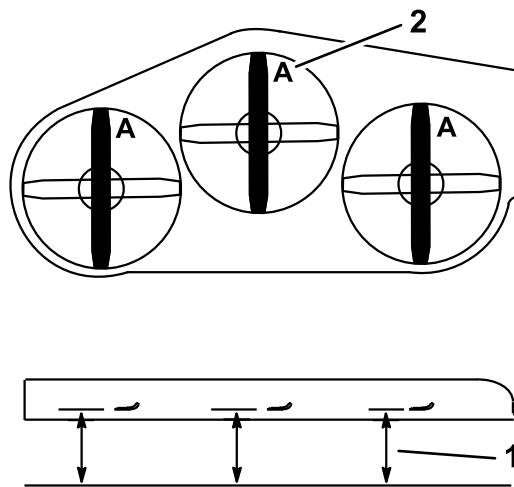

Figure 100
3. Rotate the blades until the ends face forward and backward (Figure 100). Measure from a level surface to the cutting edge, position A, of the blades (Figure 100). Note this dimension.